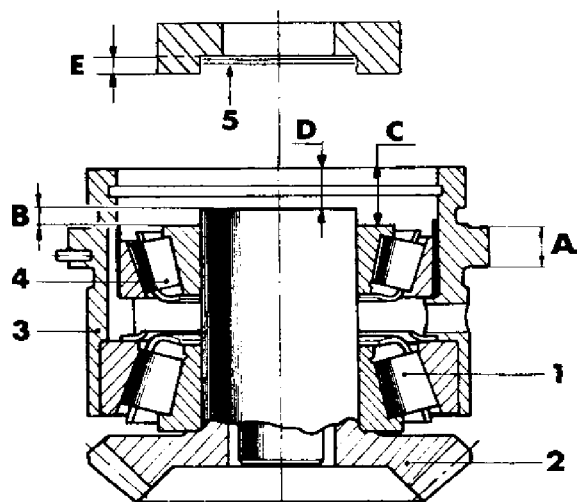
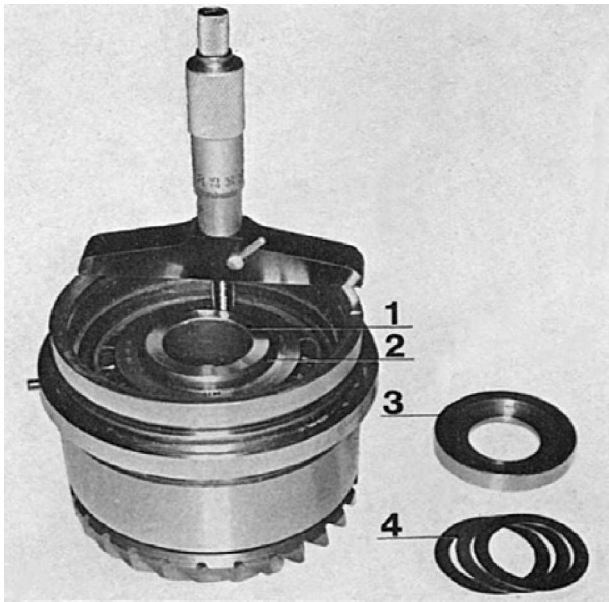

Fig. 7.
Fig. 10.
1. Press onto the drive the large roller bearing 1, Fig. 7, which is included in the complete double bearing box (12, Fig. 57) on the drive 2. Use here tool 884263.
3. Determine the measurement "B", see Fig. 7. Use a depth gauge micrometer and read off measurement "C" between the edge of the double bearing box and the bearing inner ring, see Fig. 10, and then measurement "D" between the edge of the double bearing box and the drive neck. Thereafter calculate the difference.
4. Measure the depth of the recess in the washer E, Fig. 7 (18) and add to this measurement so many shims 5 (20) that measurement "B" is obtained according to point 3.
5. Then place the washer in position and draw together the gear assembly in the double bearing box with the help of tool 884483 and bolt (34), which is tightened to a torque of 12.5 kpm (90 lb. ft.). On drives as of and including PZ no 272 1099 with a hexagonal socket screw the tightening torque is 8 kpm (60 lb.ft). Rotate a couple of turns and re-check the tension, which should be 0.5–1.0 kp (1.1–2.2 lb.). If the tension is too high, remove the washer and press back the drive slightly, after which try one more shim under the washer. If the tension is too low, try remedying this by removing a shim. Then draw the dou-